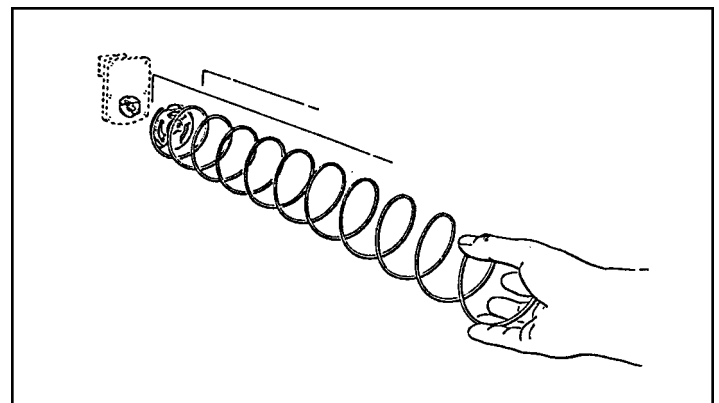
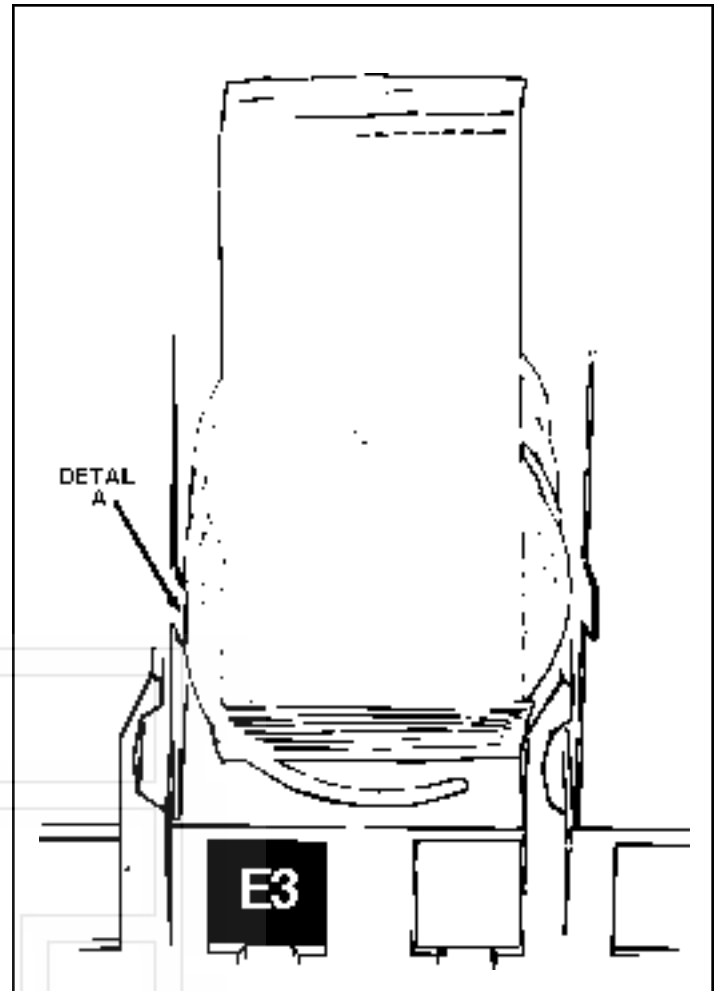

Figure 3. Removing and installing spiral.
Figure 5. Placement of product on main product candy shelves and front end of spiral.
4. **Removal of Spiral.** Grasp the front of the spiral and turn it clockwise. Lift the spiral up and off of the spiral lock and turn the spiral counterclockwise to lock it in place. Be sure the front end of the spiral is positioned properly (with the front end of the spiral pointing downward on the left side). (*Figure 3.*) The spiral lock is attached between the spiral retainer tabs. Give a light forward pull on front of the spiral to check if it is locked in place.
6. **Loading Main Product Candy Shelves.** The 8-selection (candy type) shelves are loaded similar to the 4-selection shelves, except that, the bottom of the product sits on the shelf in front of the spiral wire (Figure 5.) that rests on the shelf. These products must also fit properly in the spiral space. **Do not force product into spiral.** These spirals are removed and installed the same as the large spiral (Figure 3.), except that, the front end position is different (approximately 5 o'clock) (Figure 5.) and the front left side of
the spiral must be behind the small tab located on the left side of the product space side wall. (Figure 5., Detail A)